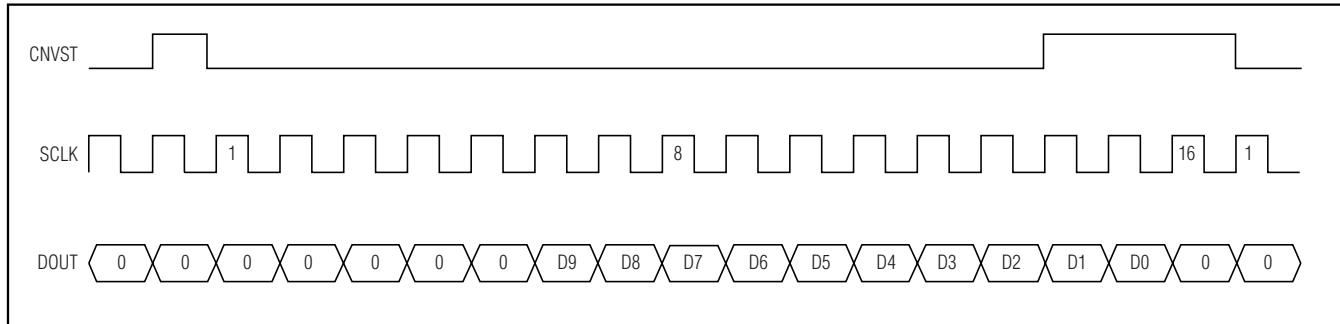

Figure 17. DSP Interface—Continuous Conversion
The MAX1334/MAX1335 can also be connected to the TMS320C54 by using the data-transmit (DX) pin to drive CNVST and the transmit clock (CLKX) generated internally to drive SCLK. A pullup resistor is required on the CNVST signal to keep it high when DX goes high impedance and write (0001)h to the data-transmit register (DXR) continuously for continuous conversions. The power-down modes can be entered by writing (00FF)h to the DXR (see Figures 17 and 18).
versions, idle CNVST high and pulse it low for the entire conversion. Configure the ADSP21_ _ STCTL and SRCTL registers for late framing (LAFR = 1) and for an active-low frame (LTFS = 1, LRFS = 1) signal. This is also the best way to enter the power-down modes by setting the word length to 8 bits (SLEN = 0111). Connect the DVDD pin to the ADSP21_ _ supply voltage (see Figures 17 and 18).